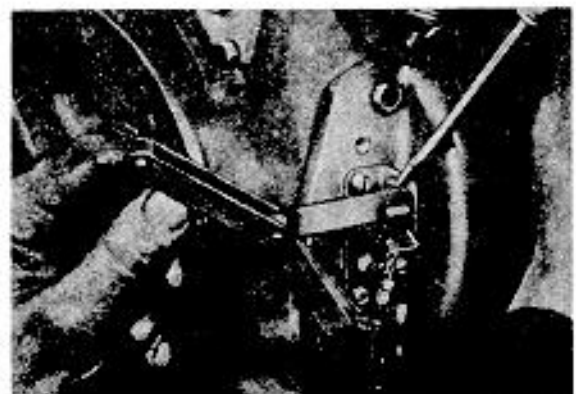

Figure 13
- c. On earlier engines without timing sight hole, point gap should be set at .020 when fully opened. Figure 13.